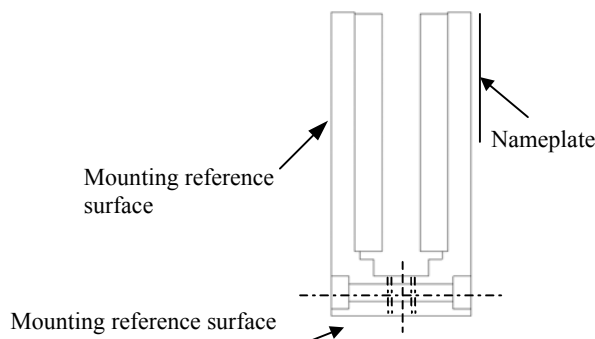

Figure 2
- (1) After checking the magnet track's two mounting surfaces, place the magnet track on the reference surface of the machine base. (Refer to Figure 2). Be careful to keep hands clear from getting jammed.